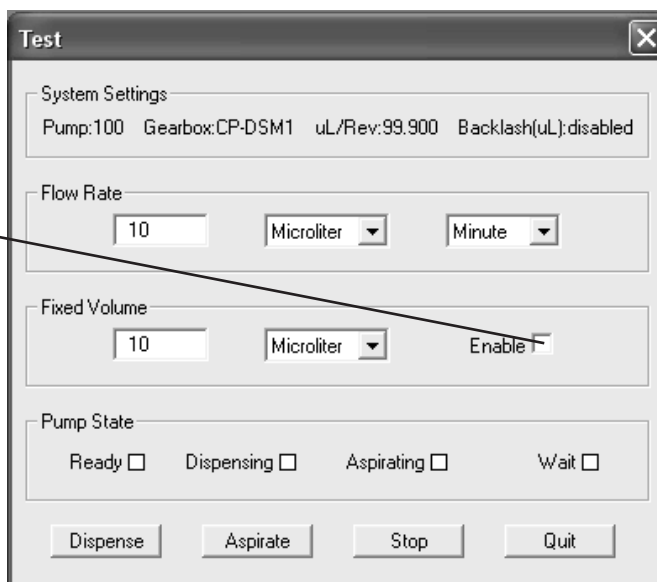

Figure 10: Priming the pump in the Test Mode (M6 values shown)
1. If the screen in **Figure 10** is not already open, go to the main menu, and choose Utility > Test.